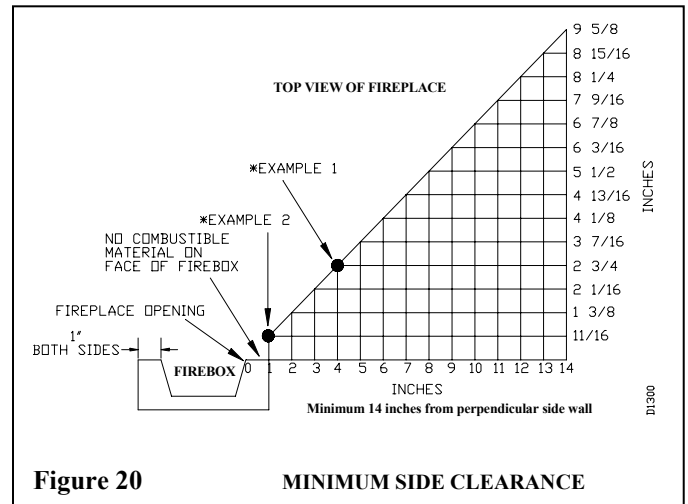

Figure 20
Mantels or any other combustible materials such as wallboard, sheet rock, drywall, plywood, etc. butt up to the side of the black metal face of the fireplace. The clearances from the side of the fireplace to any combustible material and wall should fall within the limits shown in figure 20.
*Example 1 (figure 20): The face of a mantel, bookshelf, etc. is made of combustible materials and protrudes 2-3/4” from the wall the fireplace is installed in. This combustible material must be a minimum of 4” from the side of the fireplace opening.
*Example 2 (figure 20): The face of a mantel, bookshelf, etc. is made of combustible materials and protrudes 11/16” from the wall the fireplace is installed in. This combustible material can butt up against the side of the fireplace (i.e. 1” from the fireplace opening).